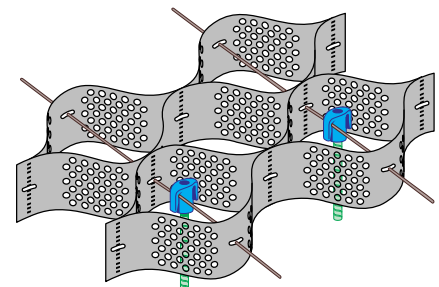

Figure 15 Internal Anchors
- Drive additional ATRA® Anchors within selected cells of the expanded Geoweb® section at the specified spacing. See Figure 15.